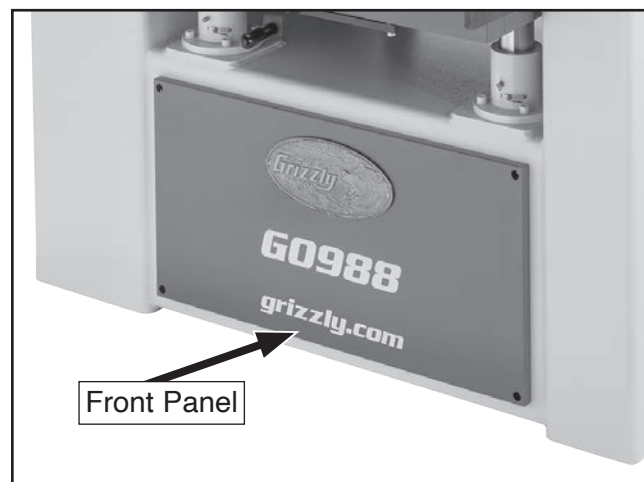

Figure 17. Location of front panel.
19. Remove front panel (see **Figure 17**).